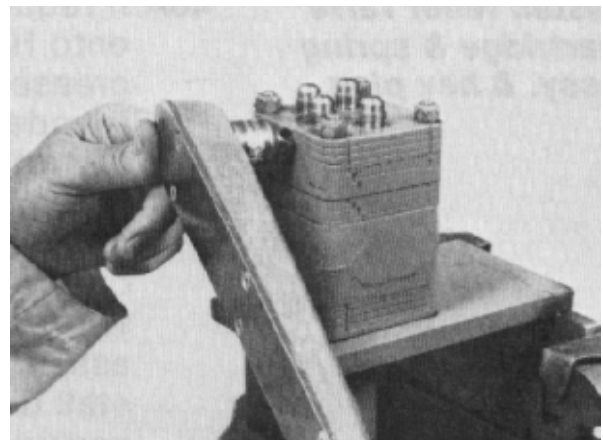

Figure 128
45. Tighten the plug to a torque of 8 – 12 ft-lb (11 – 16 Nm) (Fig. 128).